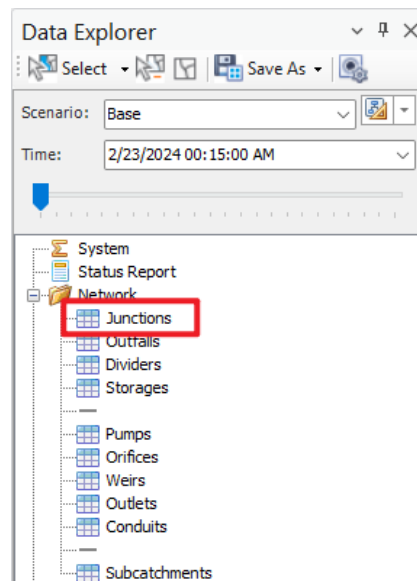

Figure 3: The location of the *Junction Twin Attribute Table*.
1. Open the *Junction Twin Attribute Table* which is located in the *Digital Twin* tab in the *Data Explorer* (**Figure 3**).